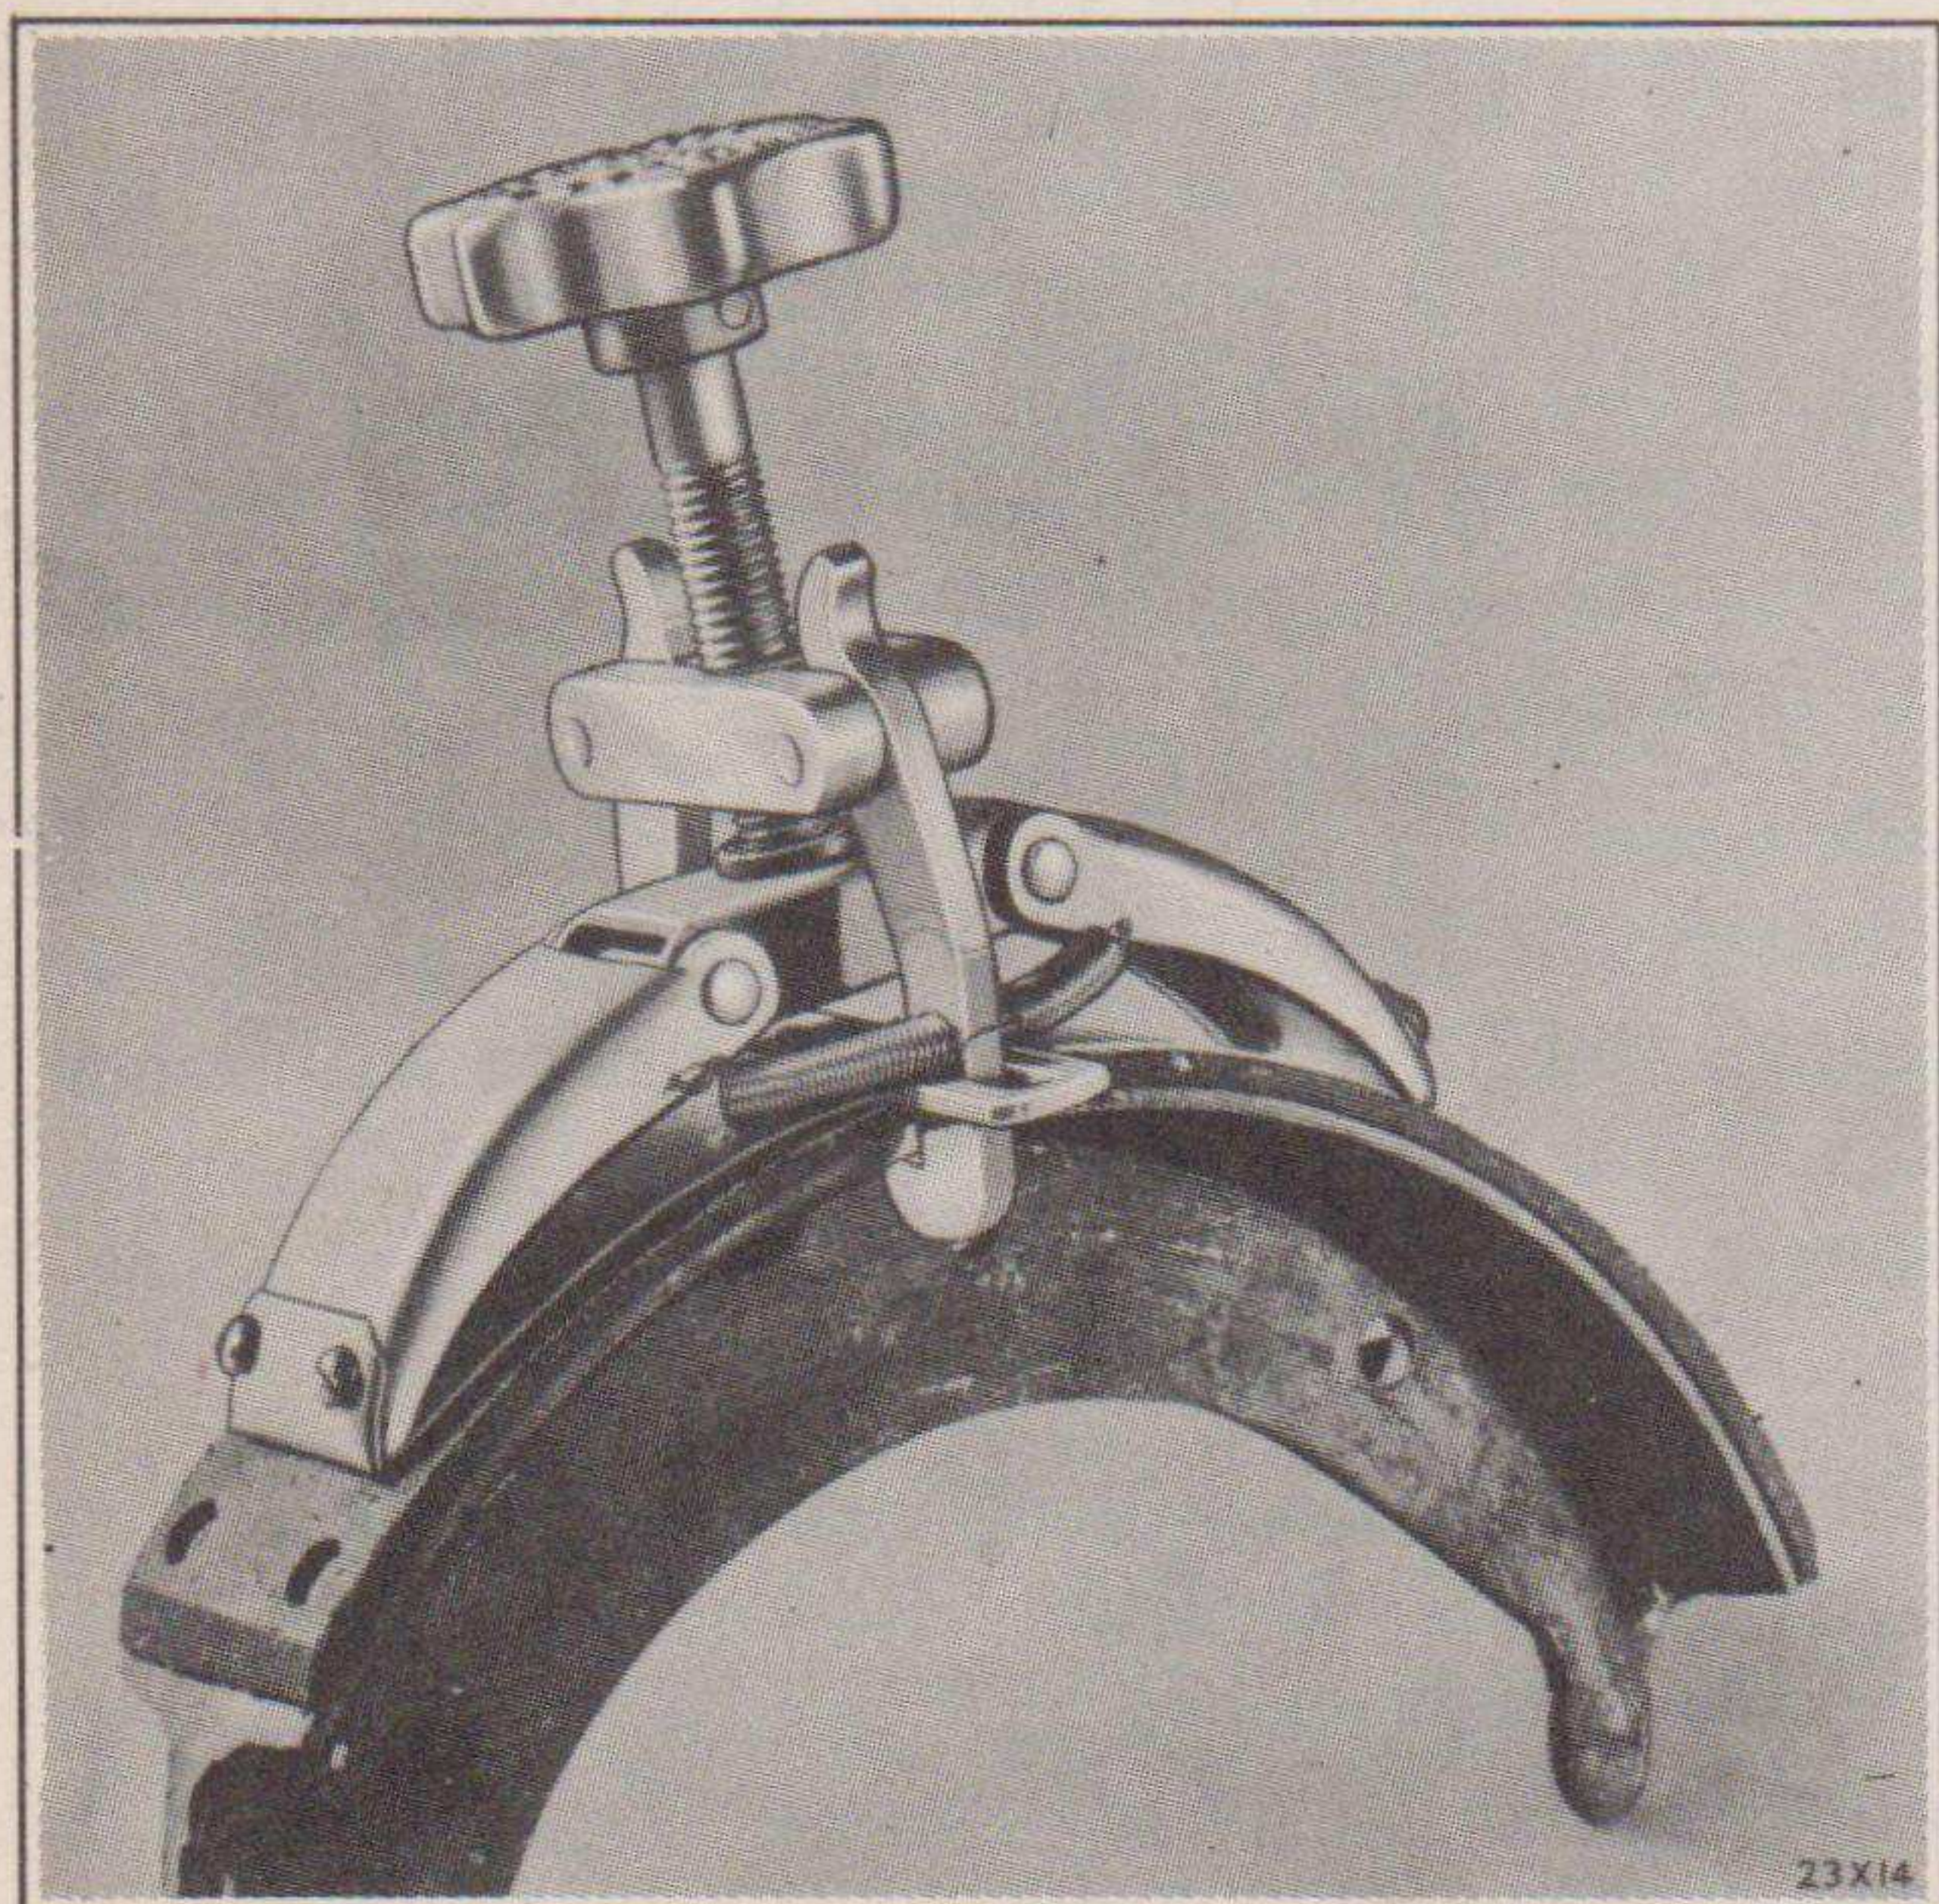

Fig. 68—Stretching Brake Shoe Facing with Tool C-557
- (c) Hold the lining on the brake shoe with a suitable clamp as shown in Fig. 68.